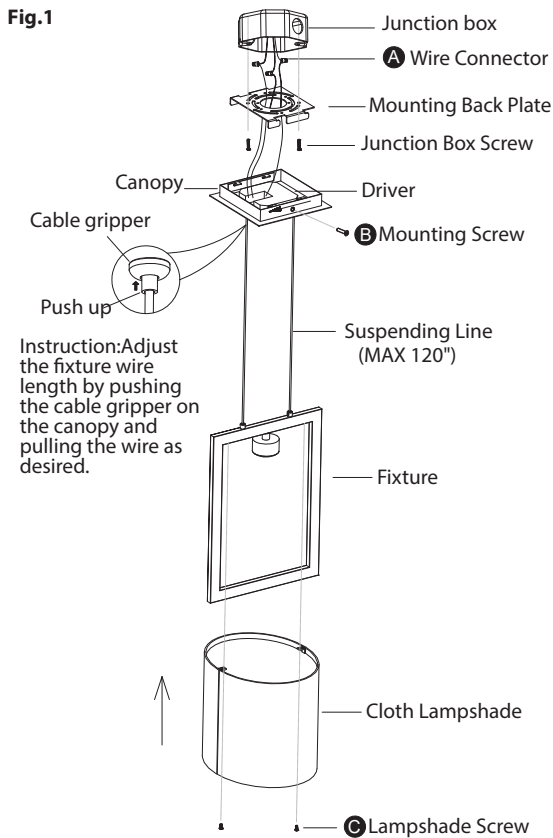
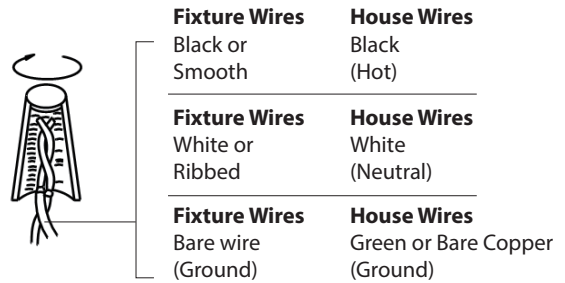

Fig.2 Wiring
Fig.3 Driver Wires
MOUNTING THE FIXTURE (Fig. 1/ Fig. 3/ Fig. 4)
- b) Due to limited space within the canopy, shorten the cable as necessary to make the installation easier. Make sure to identify and label all the wiring properly before any trimming/shortening (Fig. 3).
CONNECTING THE WIRES (Fig. 2 / Fig. 3)
8. Connect the driver's output wires to center cable as shown in Fig. 3, red to the center, and black to the bare, make sure that wire connectors(A) are secured. Then tuck them inside the canopy.
9. Connect the driver's input wires to junction box wires as shown in Fig. 2, make sure that all wire connectors(A) are secured. If your outlet box has a green or bare copper ground wire, connect the fixture's ground wire to it. Otherwise, connect the fixture's ground wire directly to the back plate using the screw provided. After wires are connected, tuck them carefully inside the junction box.
10. Secure the fixture to the mounting back plate using the mounting screw (B).